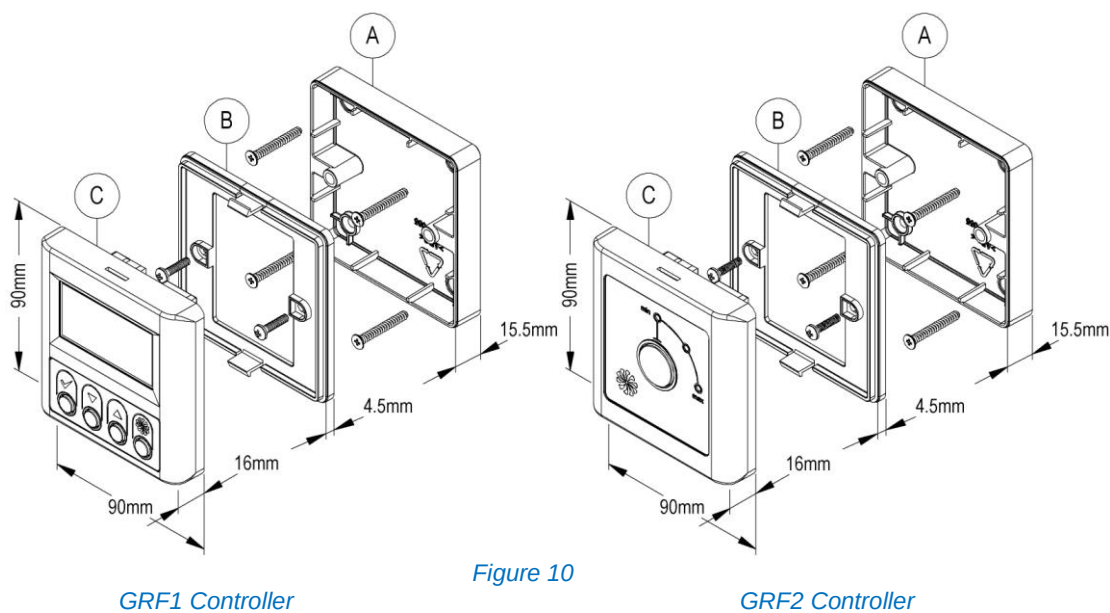

Figure 10
2.3.7 Wall Mounting (See Figure 10)
- Using the four countersunk screws and four raw plugs supplied, mount the back box (A) to a flush surface.
- Using the remaining two pan head screws, mount the fixing plate (B) to the back box.
- Place the control panel (C) onto the fixing plate until the top and bottom clips are fully engaged.